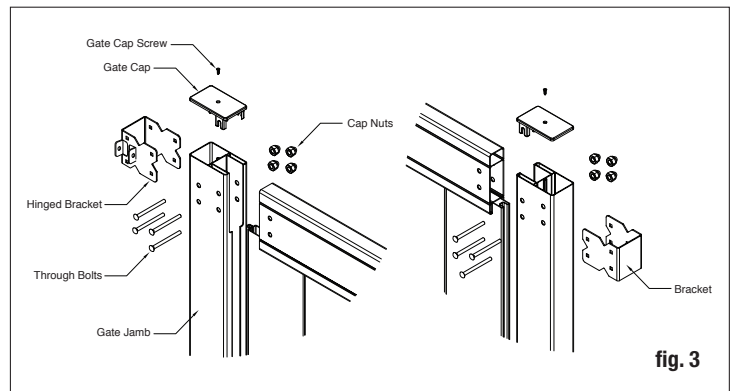

fig. 3
Slide the gate jamb onto the fence panel and place the hinges at the center of the fence rail. Using the hinge as a guide, drill the four (4) necessary $\frac{1}{4}$ " holes for the hinge bolts. Ensure the rails are fully inserted in the jamb before drilling. The bolts need to go through the jamb and rail to function properly. See fig. 3
Insert the bolts and loosely attach the nuts (these will be tightened later). Duplicate for each of the four corners. Once all corners are loosely fastened, measure from corner-to-corner to ensure the gate is square. When square, tighten all bolts with a $\frac{7}{16}$ " wrench. Do not over-tighten as it may crush the gate jambs. See fig. 3.